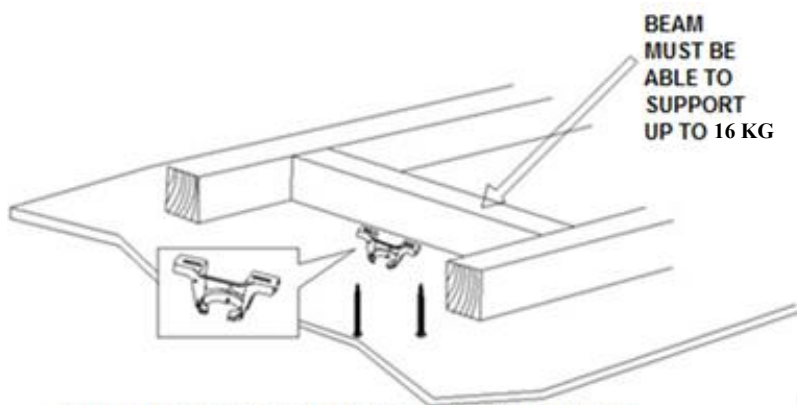

Fig. 2
- Install the hanging bracket to the ceiling joist or structure that is capable of carrying a load of at least 16 kg, with two long screws provided. Ensure at least 30mm of the screw is threaded into the support. (Fig. 2)